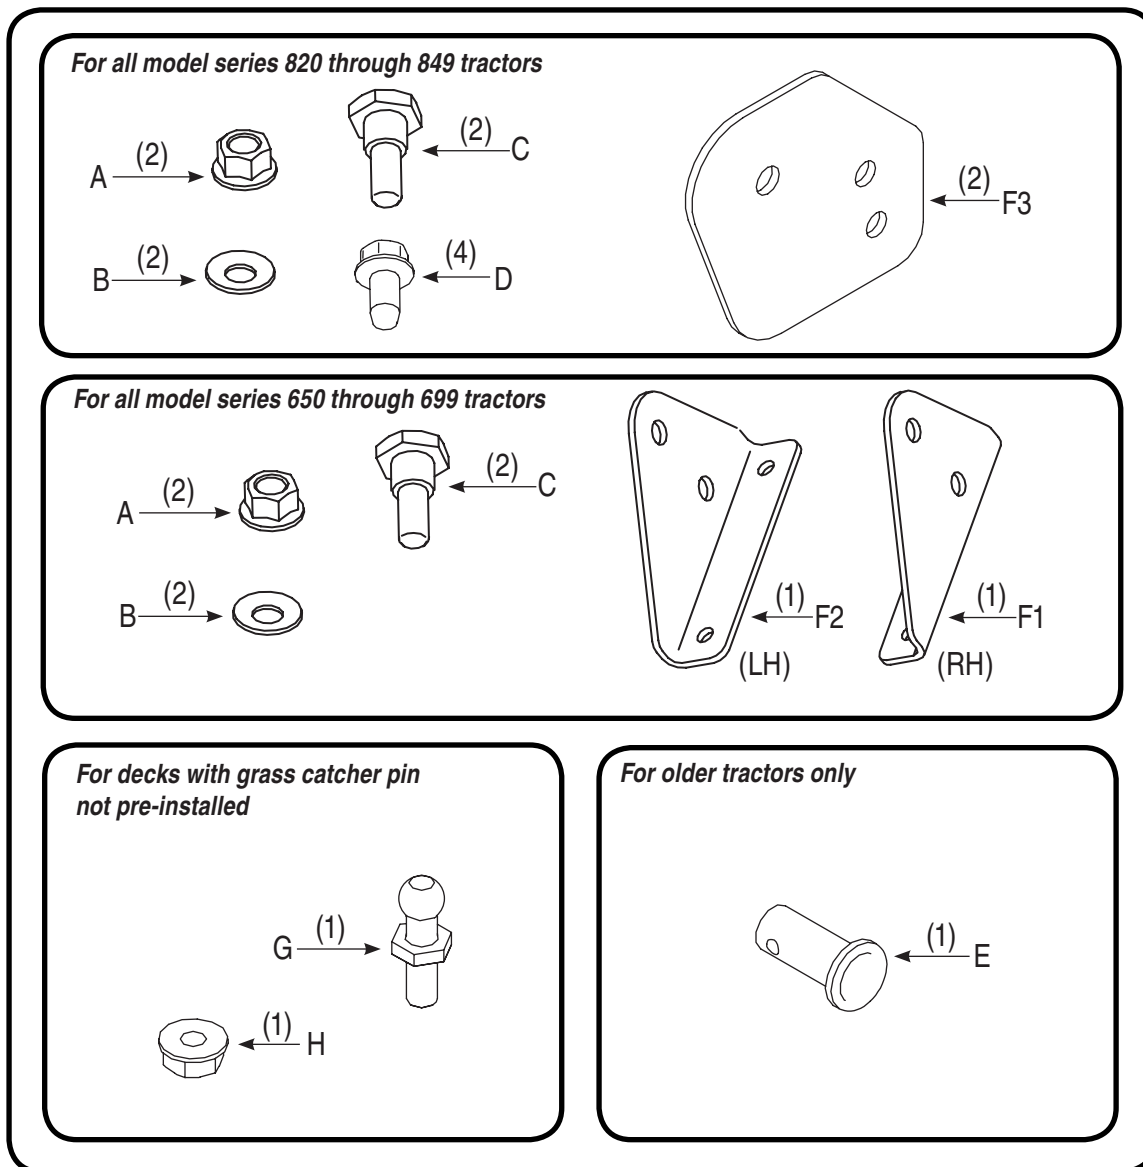
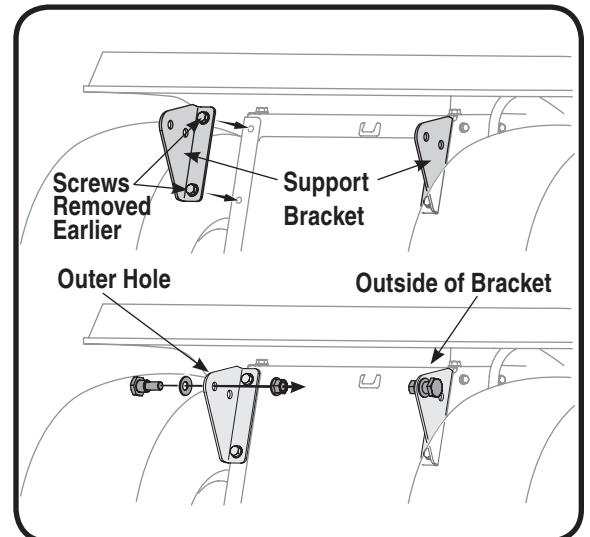
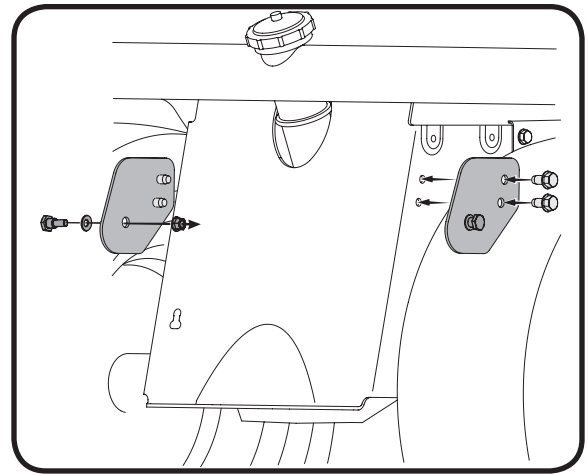

Figure 4
Figure 8
Figure 13
2. Place the right hand grass catcher support bracket (F1 from Figure 4), in position, with the wide end on top and the narrow end pointing down as shown in Figure 8.
3. Secure the support bracket to the tractor frame with two self-tapping screws earlier removed. Refer to Figure 8. Repeat on the other side using part F2 from Figure 4.
4. Insert a shoulder bolt (C in Figure 4) through a bell washer, (B in Figure 4) and insert the bolt from the outside of the bracket through the outer hole on the support bracket. Secure with a nut (A in Figure 4). See Figure 8 for details. Repeat on other side.
**NOTE:** For some tractor models, this clevis pin is too large. Use a smaller clevis pin (E in Figure 4) in its place with the same hairpin clip.
1. Locate the four self-tapping screws supplied in your hardware pack (D from Figure 4). Attach one of the grass catcher support brackets (F3 from Figure 4) using two of the supplied screws in position as shown in Figure 13. Place the other grass catcher support bracket (F3 from Figure 4) in position and secure with the other two screws.
5. Insert a shoulder bolt (C in Figure 4) through a bell washer, (B in Figure 4) and insert the bolt through the remaining hole from the outside of the support bracket. Secure with a nut (A in Figure 4). See Figure 13 for details. Repeat on other side.